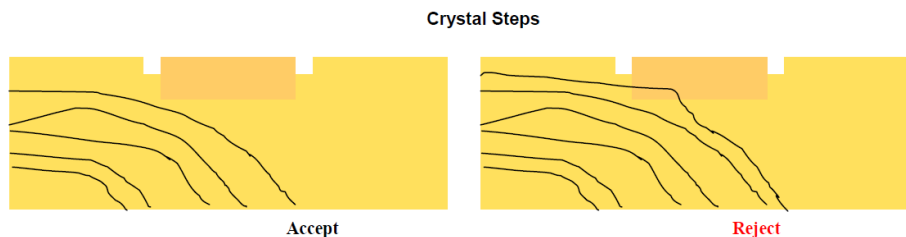

Fig. 5
- Crystal step or striation on facet outside the lasing aperture and the active waveguide region is considered within specs, as shown in Fig.5.